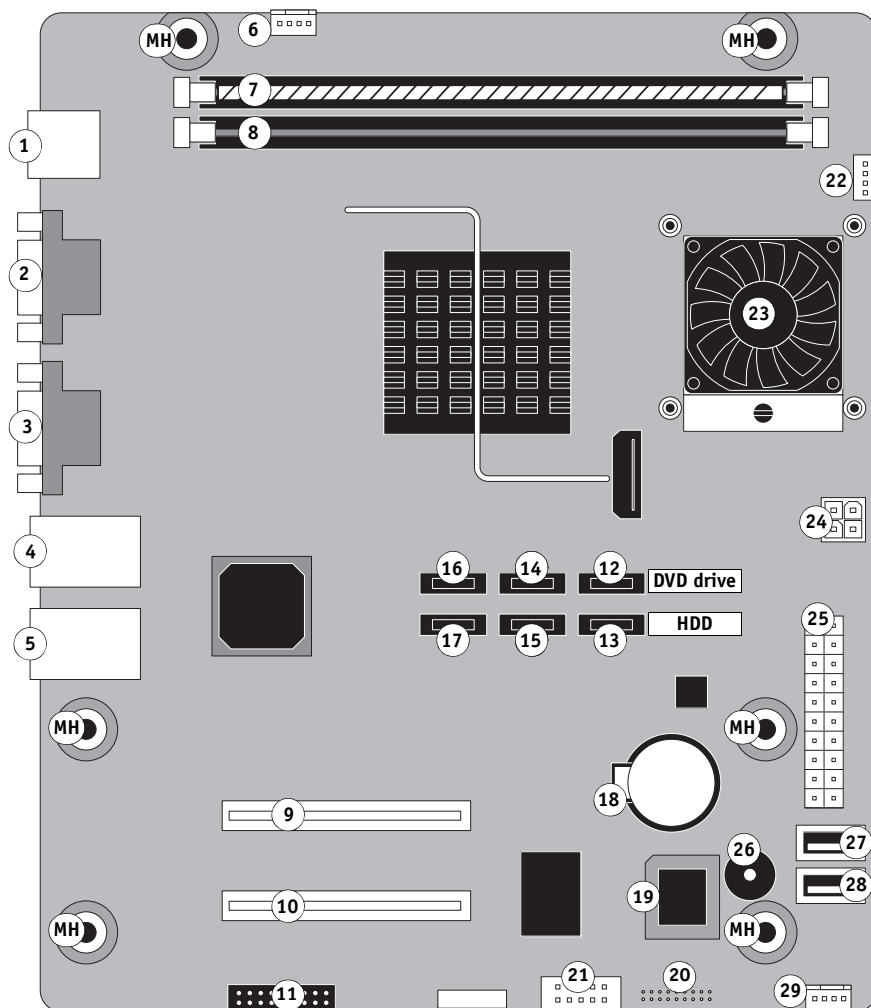

FIGURE 19: Diagram of the EB-1357 motherboard
The UIB cable is routed from a connector on the User Interface Board to a USB connector on the motherboard (see Figure 19 on page 58).
For motherboard connector locations, see Figure 19 on page 58.
3. Remove the 6 mounting screws securing the motherboard to the chassis (for screw locations, see Figure 19 on page 58).
3. **Align the mounting holes on the motherboard with the screw holes located in the base of the chassis (for mounting hole locations, see Figure 19 on page 58).**
5. Replace the video board in motherboard connector PCIE 1 (see Figure 19 on page 58).